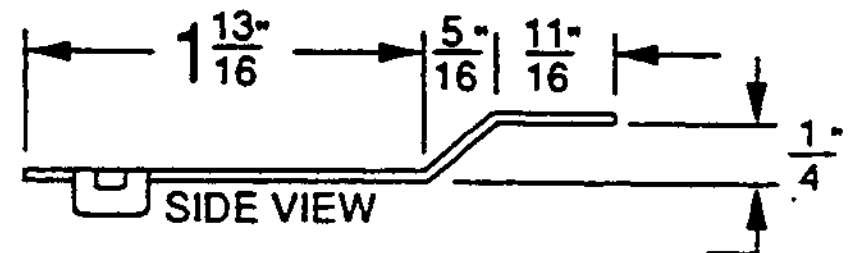

**Fig. 3**
- c. Form a mild bend (Fig. 3) upwards over the torque arm.